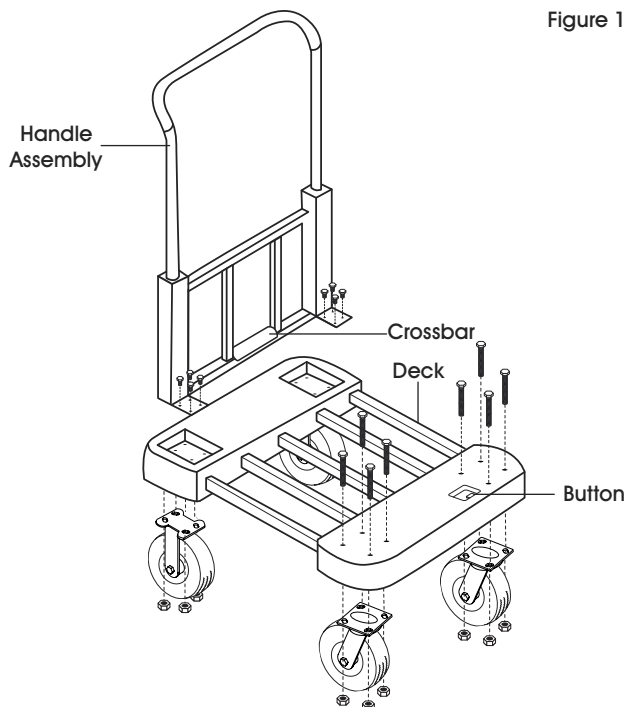

Figure 1
1. Align handle assembly with deck and rigid casters. Secure with short bolts and eight nuts. (See Figure 1)
2. Align swivel casters with deck. Attach with long bolts and eight nuts. (See Figure 1)
3. Adjust deck to desired length using button in the top of deck. (See Figure 1)
4. Collapse handle by pressing down on crossbar in the center of handle assembly and pushing it forward. (See Figure 1)